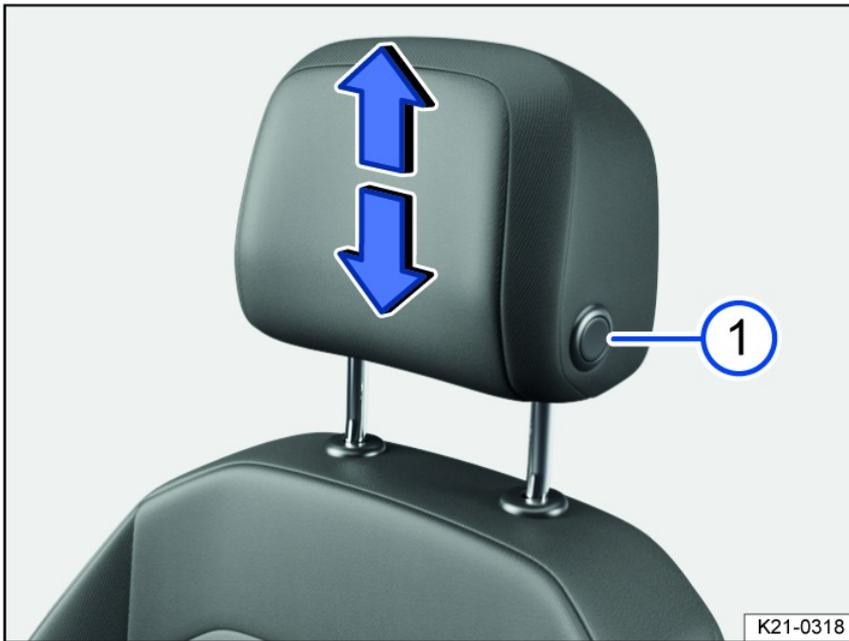
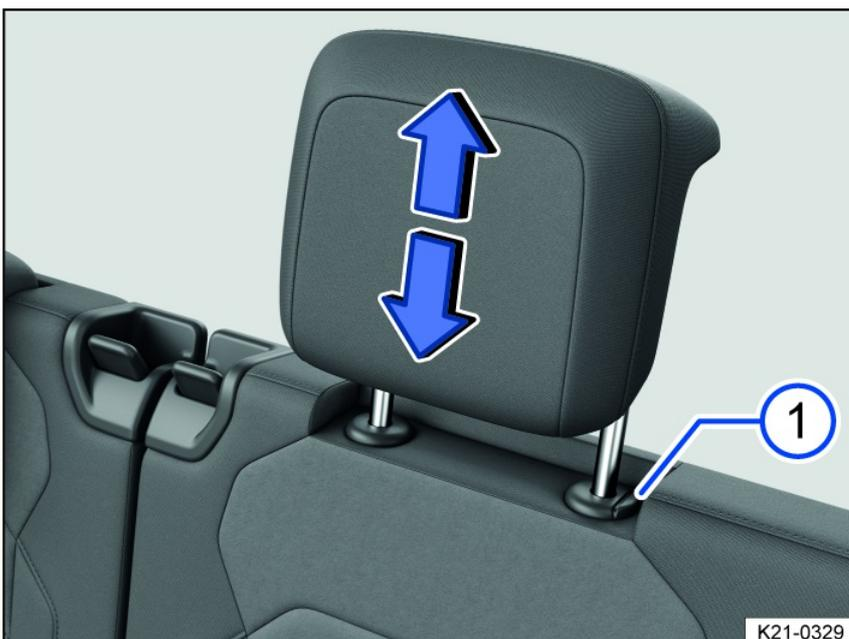
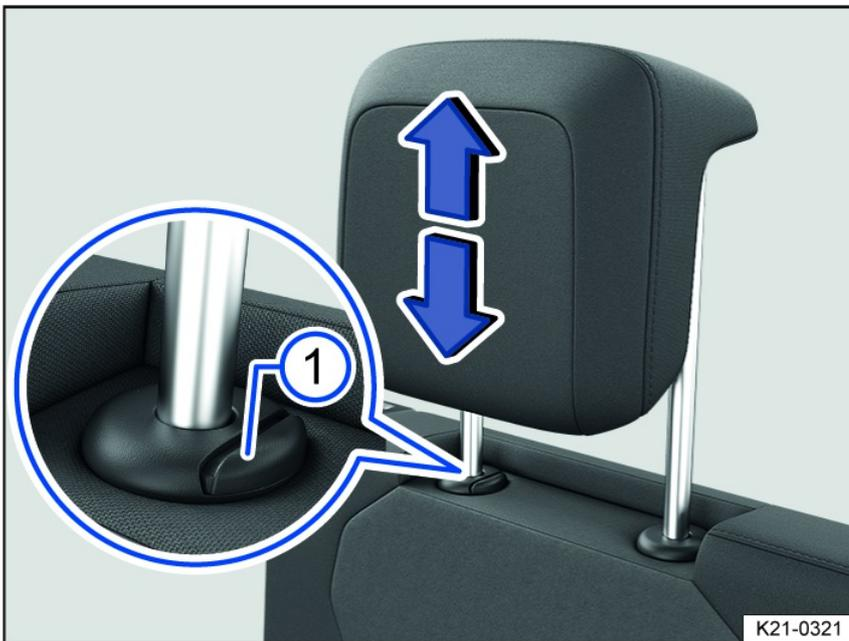

Fig. 82 General example: adjusting the front head restraint.
Fig. 83 General example: adjusting the head restraint on the second-row seats.
Fig. 84 General example: adjusting the head restraint on the third-row seats.
1. Slide the head restraint up or down in the direction of the arrow; you may need to press the button fig. 82, fig. 83 or fig. 84 first to release the head restraint.